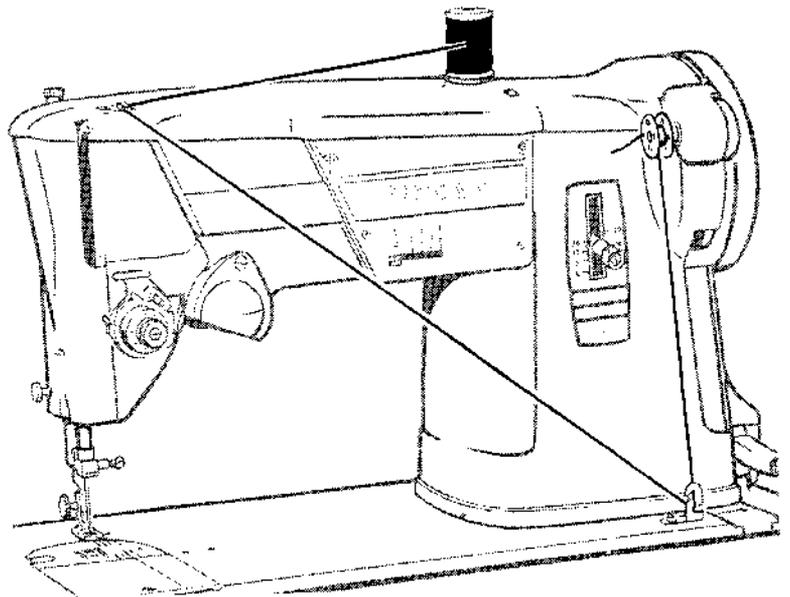

FIG. 10.
- Thread machine as shown in Fig. 10.